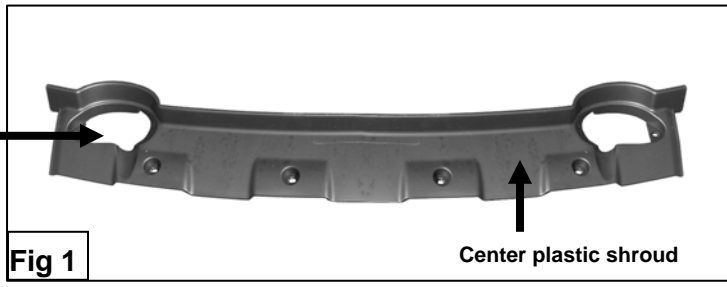

Fig 1
2. From underside of vehicle, use a 10mm socket wrench to remove the 6 bolts holding the center plastic shroud. Set center plastic shroud on a clean working area and use a hack saw to cut out the driver side tow hook cavity (**Figure 1**).